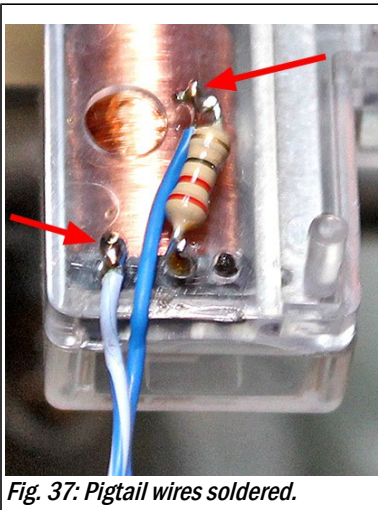
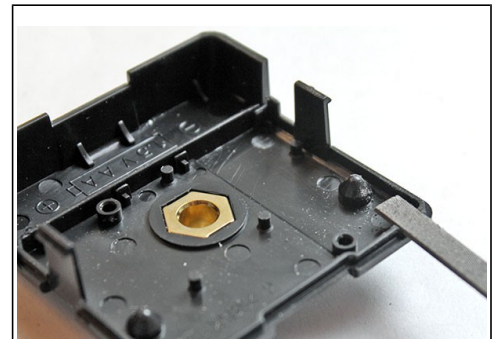
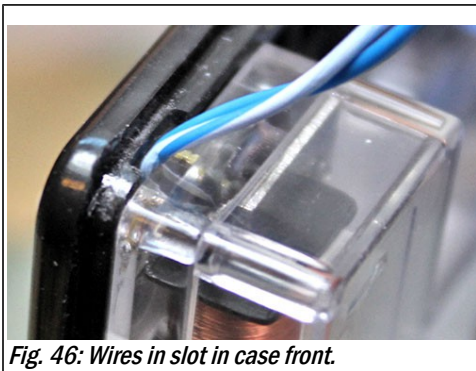

Fig. 37: Pigtail wires soldered.
Fig. 44: Filing a slot in the case front.
Fig. 46: Wires in slot in case front.
- ☐ Use needle nose pliers to wrap the hooked end of the longer "pigtail" wire you cut earlier around the remaining bent lead on the 22-ohm resistor. If you didn't glue the resistor as recommended above, be very careful not to rotate the resistor and the motor terminal more than a few degrees. The resistor acts as a "handle" that easily rotates the terminal. Run the wire between the two motor terminals at the edge of the movement housing to the resistor lead near the hole in the housing (blue wire, upper arrow in Fig. 37). Solder the wire to the resistor lead.
- ☐ Use needle nose pliers to wrap the hooked end of the shorter pigtail wire around the left-hand motor terminal (white/blue wire, lower arrow in Fig. 37), and solder it.
The easiest and neatest way to do this is to use a narrow flat file, as shown in Fig. 44. Or you can use a sharp #11 blade in a hobby knife.
- ☐ Make the slot about 3/16" wide and about 1/16" deep. On the case front (Fig. 44), cut only the flange (ridge) that runs around the case. Stop cutting when you reach the case surface itself. One side of the slot should be adjacent to the corner curve in the flange; this is the correct location for the motor wires you installed above.
- ☐ Place the modified movement into the case, with the shaft passing through the brass bushing. Ensure that the wires rest in the slot you cut into the case flange (Fig. 46). Also ensure that the wires don't hold the housing too high. There is a conical protrusion molded into the case (visible at the end of the file in Fig. 44). This protrusion should fit into a hole in the movement housing above the motor coil, seen in Fig. 37.
- ☐ Hold the movement against the case front, making sure the wires pass freely through the slot. Gently bend the wires so they are parallel to the case front (e.g., bend them 45° toward the left in Fig. 46). Snap the case cover onto the case front. Be sure the slots in the case front and cover case align, and that the wires pass easily through the slot; see Fig. 28 on page 38.
Note: Ignore the PCB shown in these photos. The photos were made before I determined that the PCB must be removed. A modified movement will have the resistor and two wires instead of the PCB, as shown in Fig. 37.